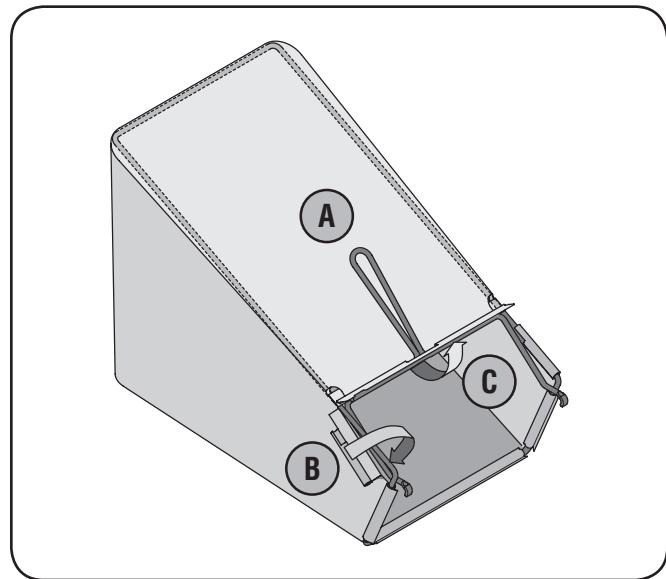

Figure 3-4
- Slip plastic channel of grass bag over hooks on the frame. See Fig. 3-4. All the plastic channels except center top of bag attach from outside of frame.